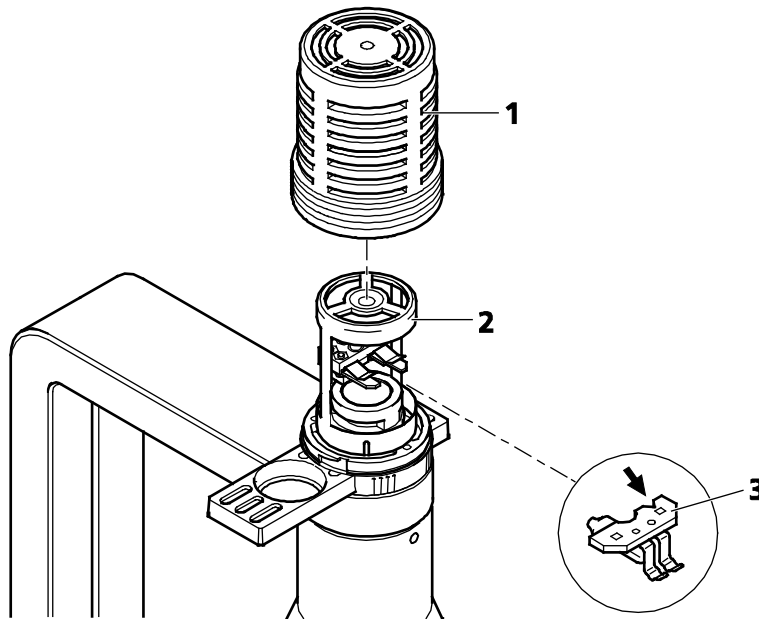

Fig. 18 Replacing the halogen lamp
Hot surfaces on lamp housing (Fig. 18/1), heat sink (Fig. 18/2) and halogen lamp:
- Unlock the lamp housing (Fig. 18/1) by slightly turning it anticlockwise.
- Remove the halogen lamp with alignment base (Fig. 18/3).